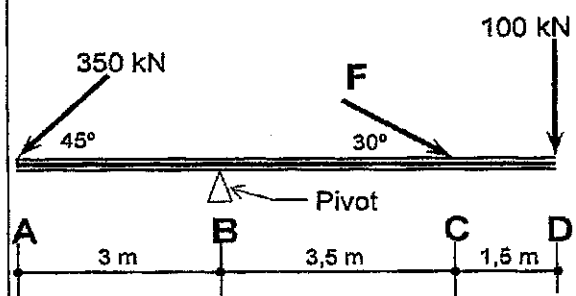

FIGURE 5
6.1 The structure in FIGURE 5, DIAGRAM SHEET (attached) balances about the pivot at 'B'.